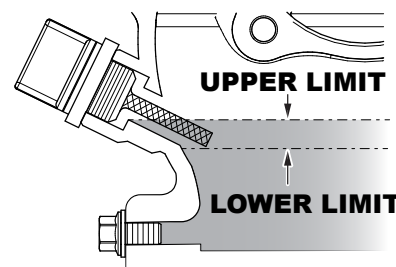

Figure 6. Engine Oil DipStick (Oil Level)
4. If the oil level is low (See Figure 6), fill to the edge of the oil filler hole with the recommended oil type (Table 6). Maximum oil capacity is 0.63 quarts (0.6 liters).